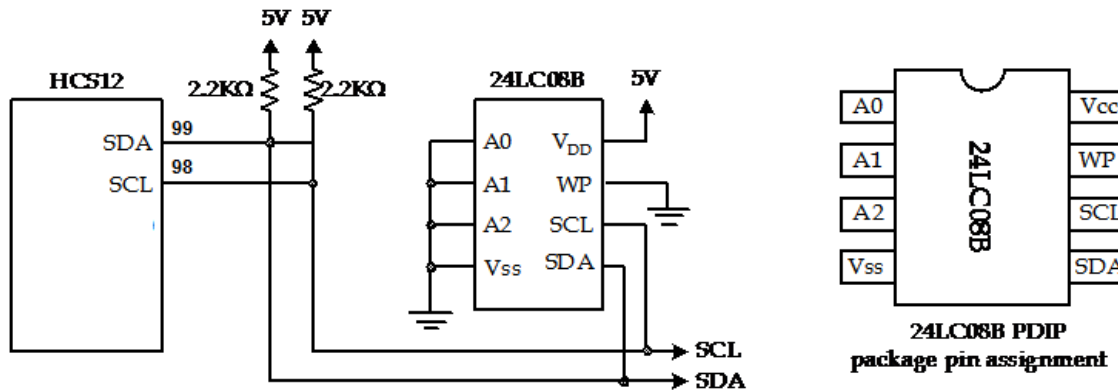

Figure 5. I²C experiment setup
- Assemble the circuit as shown in **Figure 5**.